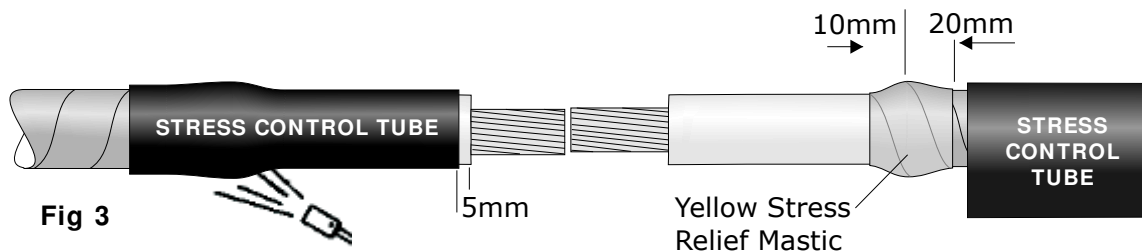

Fig 3
5. Position the stress control tubes and red/black dual wall tubes over each core as shown in Fig 3.
6. Stretch the yellow stress relief tape and apply over the screen cut area, extending onto the primary insulation by 10mm and catching the copper tape screens (if present) as shown in Fig 3.